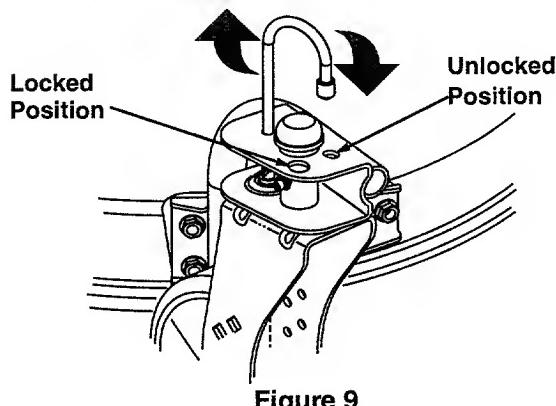

Figure 9
- To lock caster:** Lift and place the lock pin in the larger hole on each caster. See Figure 9.
- To unlock caster:** Lift and place the lock pin in the smaller hole to allow casters to rotate freely. See figure 9.